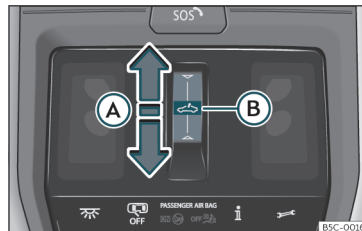

Fig. 87 On the interior roof lining: sunroof button.
- Automatic movement: slide your finger back over the functional area ↕ >>> Fig. 87 A.
>>> **Fig. 87** (A) and keep pressed until the sunroof is fully closed.